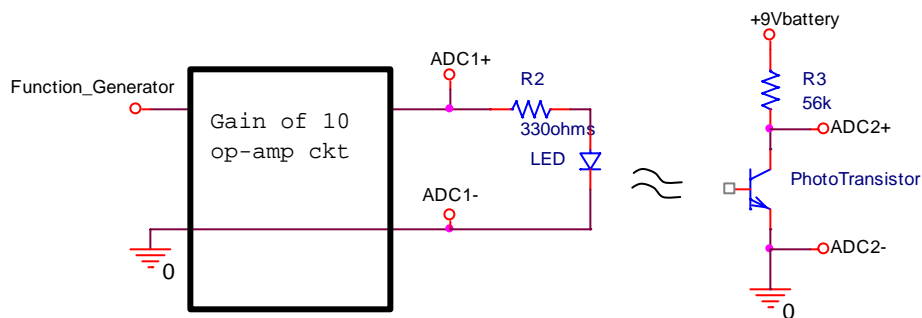

Figure C-2
- Wire the circuit in figure C-2 on your protoboard.